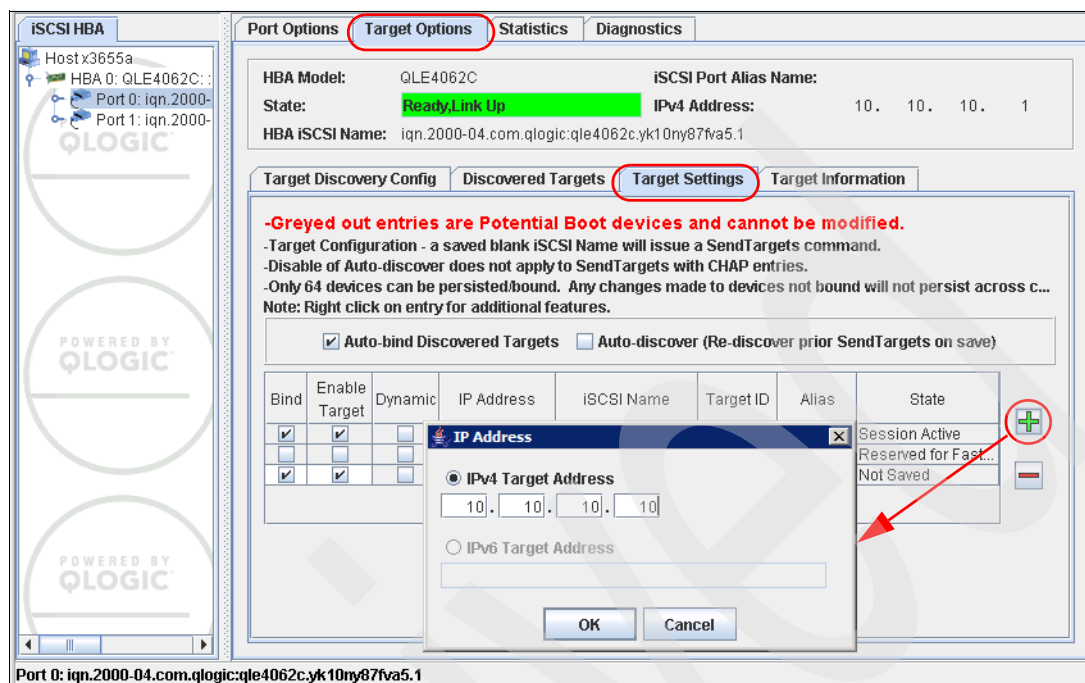

Figure 3-23 Setting Target
- Now move to the **Target Settings** tab, and add the IP of the controller A of your subsystem as shown in Figure 3-23.